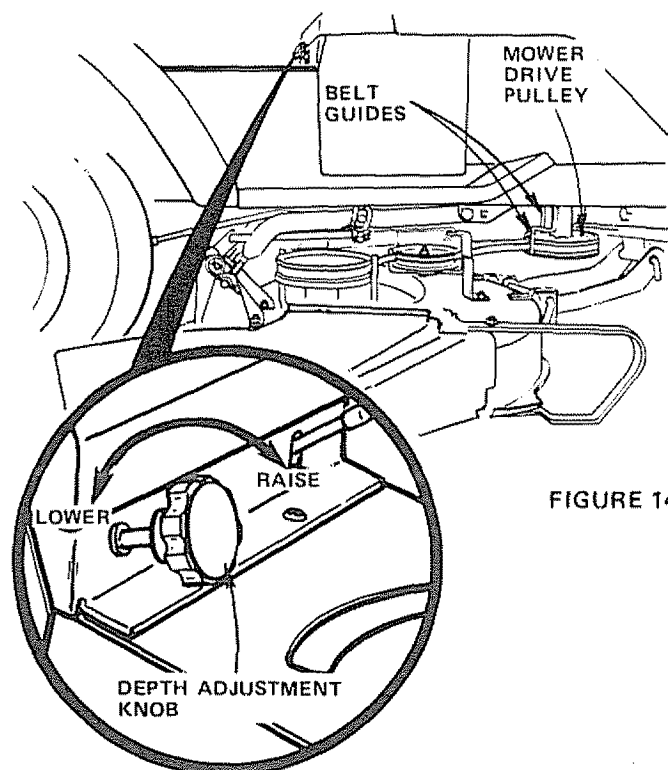
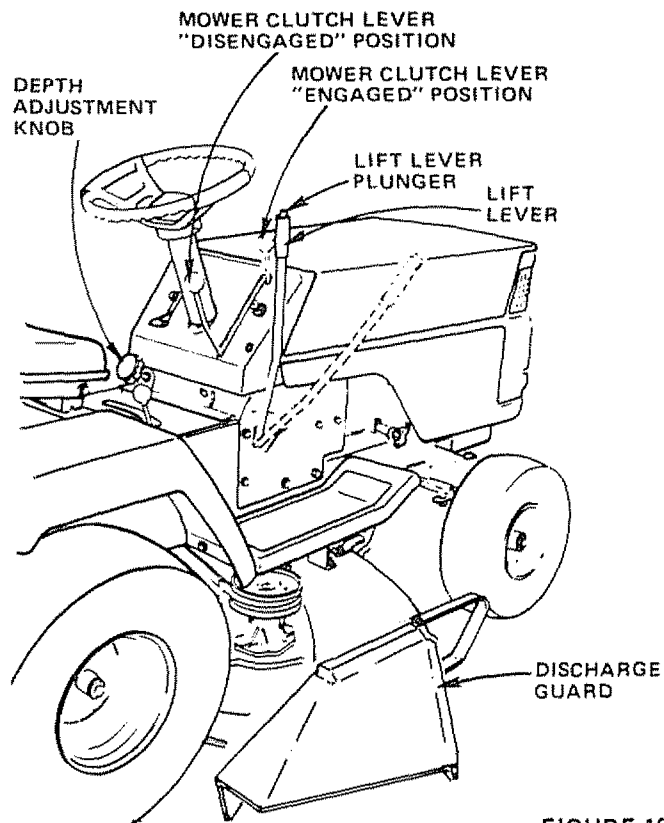

FIGURE 14
FIGURE 19
Your 38" Mower installs without the use of tools. Raise Lift Lever (Fig. 11) to its highest position. Turn Depth Adjustment Knob to lowest position (Fig. 14).
5. Roll Belt over Mower Drive Pulley. Make sure Belt is inside Belt Guides (Fig. 14). See Belt Drive Schematic Decal on Mower Housing.
1. Place Mower Blade Clutch Lever in "DISENGAGED" position (Fig. 19).
5. Use Lift Lever to lower mower into cutting position. Start mowing in the first gear and increase ground speed as conditions will permit. Average cutting height is approximately 2 - 1/2 to 2 - 3/4 inches. Height of cut can be adjusted by means of the Depth Adjustment Knob (Fig. 19). Moving the Knob clockwise (↻) raises the mower (Fig. 14 - Inset). Moving the Knob counterclockwise (↺) lowers the mower.
Your mower has a flip-up Discharge Guard (Fig. 19) for door or gate clearance when held in raised position.